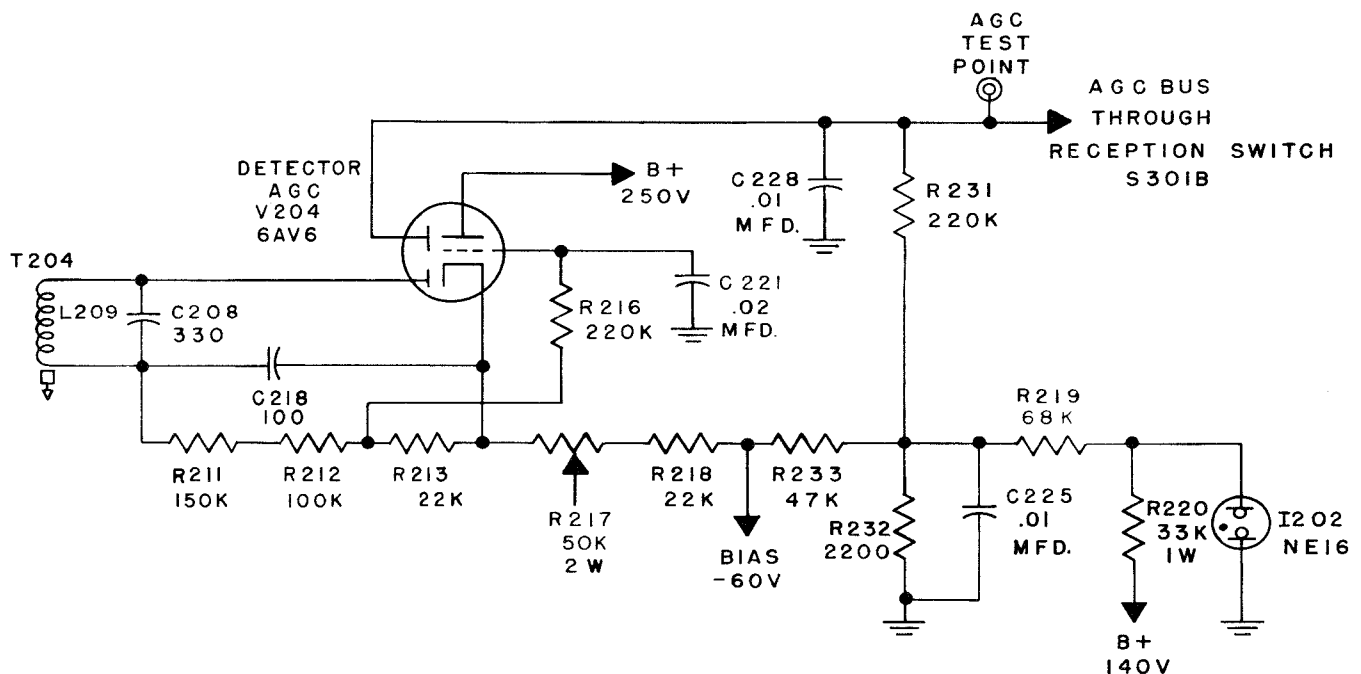

Figure 2-14. Simplified Schematic, Automatic Gain Control
(4) AUTOMATIC GAIN CONTROL (AGC).— An amplified and delayed type of automatic gain control is utilized, as indicated in the simplified schematic, figure 2-14; delayed meaning a voltage delay, not a time delay. This circuit functions in such a way that AGC action is delayed until the incoming carrier